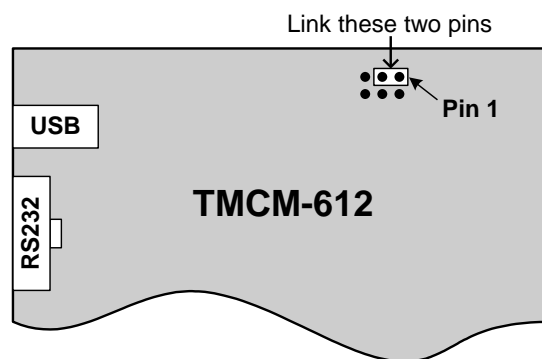

Figure 3.4: Restoring all parameters to factory default
2. Link the pins 1 and 3 of the ISP connector with a jumper (as shown in Figure 3.4).